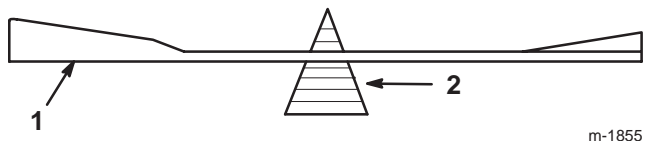

Figure 36
2. Check the balance of each blade by putting it on a blade balancer (Fig. 36). If the blade stays in a horizontal position, the blade is balanced and can be used. If the blade is not balanced, file some metal off of the back side of the blade. Repeat this step until the blade is balanced.